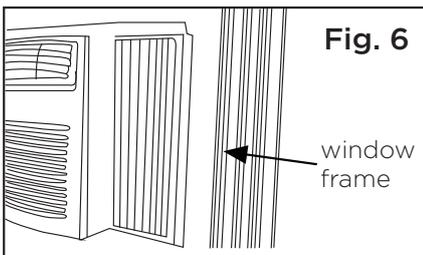

Fig. 6
- Extend the side panels out against the window frame (Fig. 6).